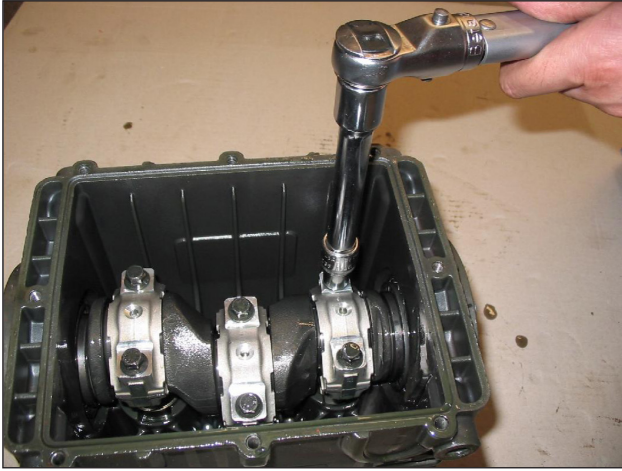

Fig. 10
- Fasten the caps to their respective con-rod shanks by means of M8x1x48 screws (Fig. 10) lubricating both the underhead and the threaded shank, proceeding in two different stages: